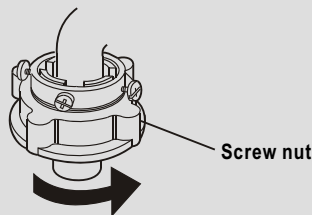

Figure 5
4. Extend the drain hose from the other side. Fix the drain hose onto the cabinet with the drain hose rack. (As indicated in Figure 5)
4. Take off the sign plate. Twist the fastening nut as per the indication of the figure to seal up the exit end face of the faucet. See to Figure 5.